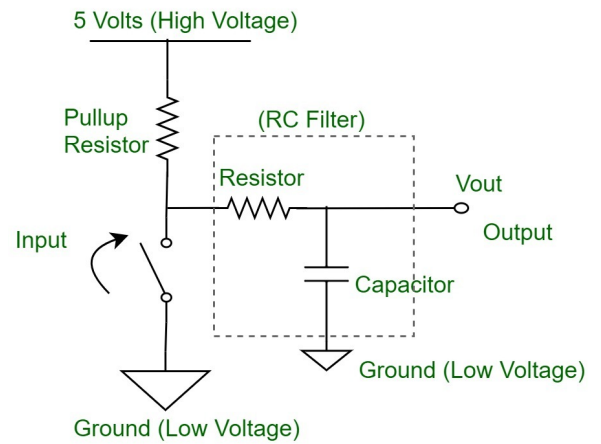

Figure 2: Debounce circuit
- **Hardware debouncing:** use an RC filter (e.g. 10 k Ω + 100 nF) or a Schmitt trigger (see figure 2).
To eliminate signal noise caused by the mechanical bouncing of a pushbutton, a **debounce circuit** is added. A capacitor (typically 10 nF) is connected in parallel with the switch to smooth out rapid voltage changes.(see Figure 2)